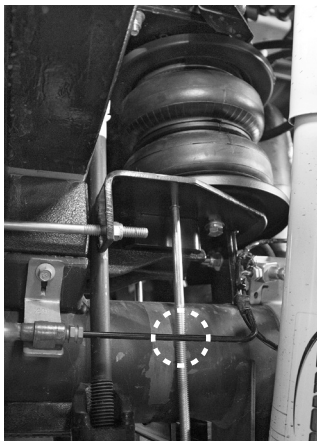

Fig. 23
On the driver's (left) side, the long carriage bolt in the lower bracket will be between the hard brake line and axle (Fig. 23). On the passenger's (right) side, the carriage bolt will be on the back side of the brake line (Fig. 24).
- Figures 23 & 24 show the lower bracket installed. Note the location of the carriage bolts in conjunction with the hard brake and ABS lines.